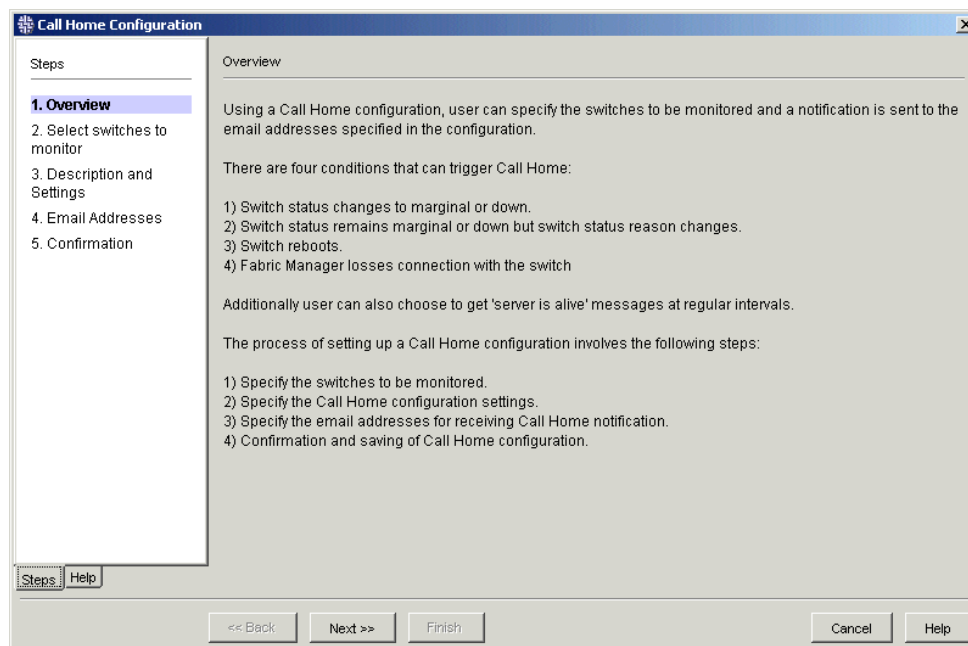

Figure 20: Call Home Configuration
2. Click **Add**. The Call Home Configuration wizard opens (see Figure 20).